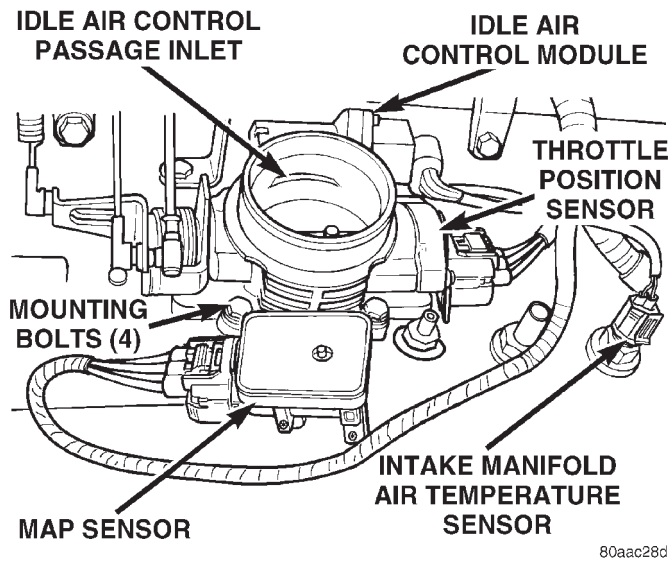
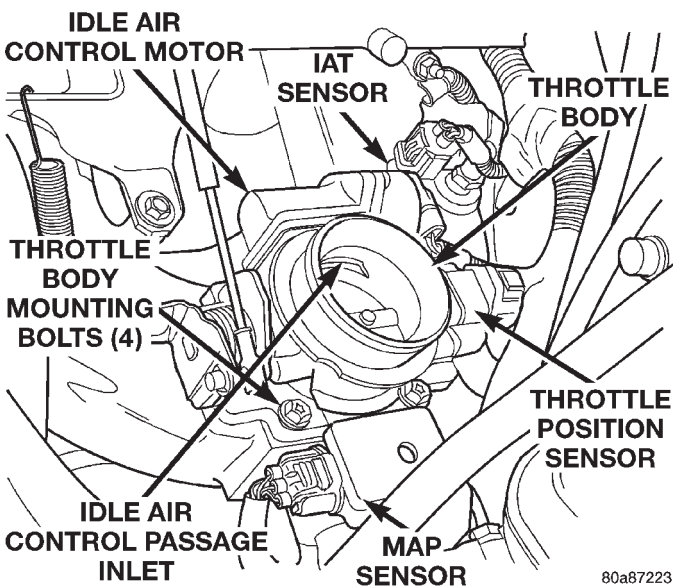
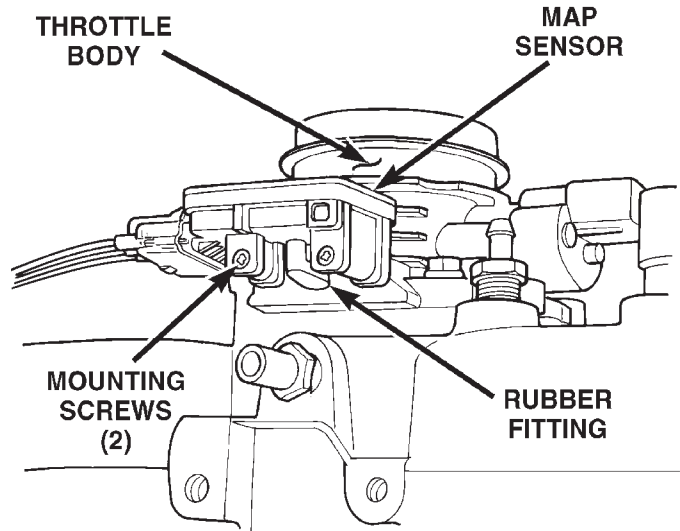

Fig. 44 Throttle Body and Sensor Locations—4.0L Engine
Fig. 45 Throttle Body and Sensor Locations—2.5L Engine
Fig. 49 MAP Sensor Mounting
- (1) Remove air cleaner tube at throttle body.
- (2) Disconnect throttle body electrical connectors at MAP sensor, IAC motor and TPS (Fig. 44) or (Fig. 45).
- (3) Remove all control cables from throttle body (lever) arm. Refer to the Accelerator Pedal and Throttle Cable section of this group for additional information.
- (4) Remove four throttle body mounting bolts.
- (5) Remove throttle body from intake manifold.
The TPS is mounted to the throttle body (Fig. 44) or (Fig. 45).
The IAC motor is located on the side of the throttle body (Fig. 44) or (Fig. 45).
The MAP sensor is mounted to the side of the throttle body (Fig. 44) or (Fig. 45). An L-shaped rubber fitting is used to connect the MAP sensor to throttle body (Fig. 49).
- (1) Remove air cleaner intake tube at throttle body.
- (2) Remove two MAP sensor mounting bolts (screws) (Fig. 49).
- (3) While removing MAP sensor, slide the rubber L-shaped fitting (Fig. 49) from throttle body.
- (4) Remove rubber L-shaped fitting from MAP sensor.